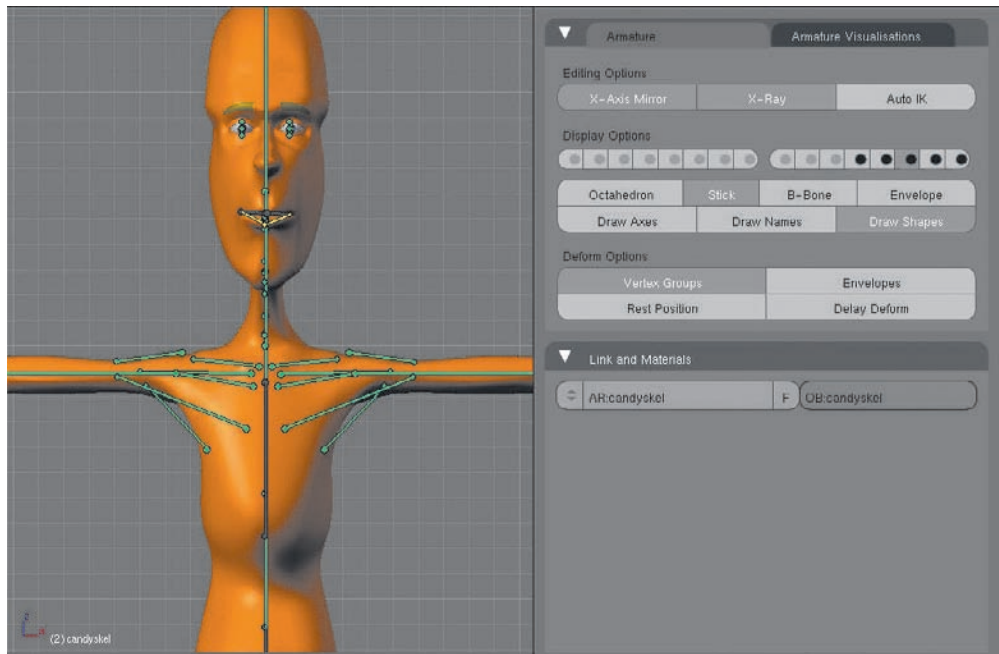

Figure 3.60 Mancandy with deform bones shown
1. Make a copy of the .blend file containing the Mancandy character and open it in Blender. If you aren't familiar already with how Mancandy is rigged and posed, spend some time studying the rig first. Plenty of resources are available for learning about Mancandy, and this tutorial assumes that you know the basics of the rig. The bones of interest to begin with are the deform bones of the torso and arms, which can be found on bone layer 14, shown highlighted in Figure 3.60.